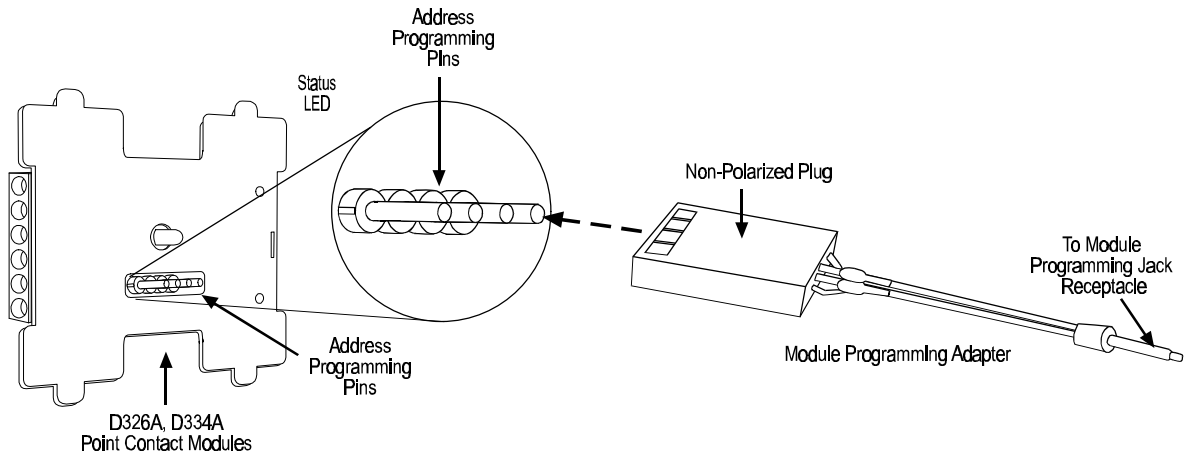

Figure 2: D326A/D334A Programming Connections
- To program the address on the D326A or D334A, insert the non-polarized plug on the Programming Adapter into the address programming pins on the D326A/D334A module. Plug the remote programming jack on the Programming Adapter into the remote programming jack receptacle on the D5070 Analog Device Programmer (See Figure 2).